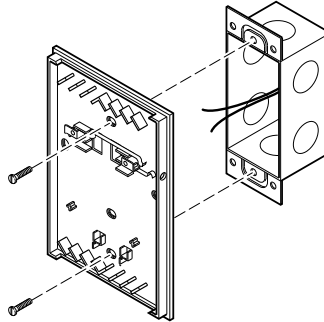

Figure-4 2 x 4 Electrical Box Mounting.
3. Use two 6-32 x 5/8 in. flat head screws (not provided) to mount the base plate to the electrical box ((Figure-4)).